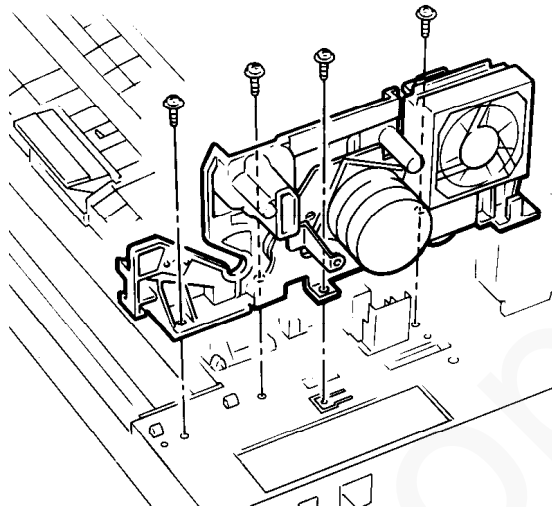

Figure 1. Rear frame
10. Remove the four screws retaining the rear frame to the chassis (figure 1).